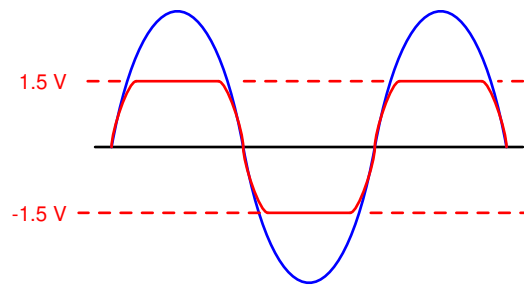

Figure 5: Clipping both half cycles
- (c) Observe the waveform in Fig. 5 and derive the transfer characteristics. Design the circuit that exhibits the derived transfer characteristics by modifying the circuit in Fig. 3.